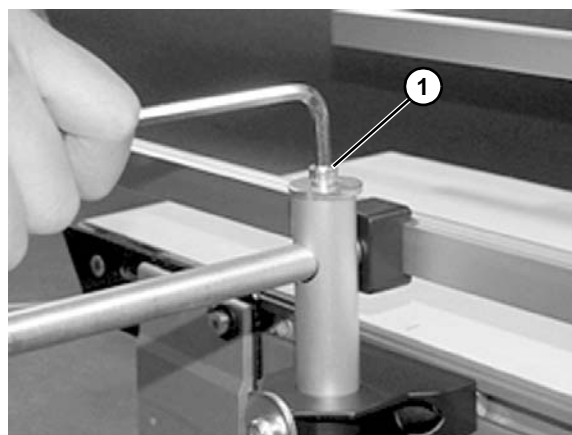

Figure 83
6. Adjust rail width with top screw (**Figure 83, item 1**).